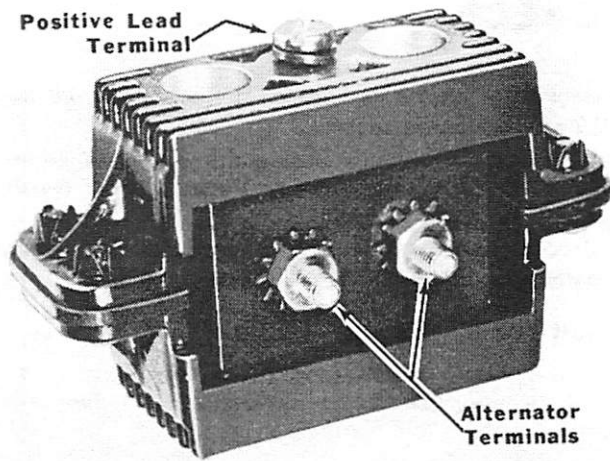

Figure 2. Testing Positive Diodes
- a. Connect small red test lead to either alternator terminal and connect black lead to positive terminal of rectifier. (Figure 2) Meter pointer should move to right of Scale No. 3.